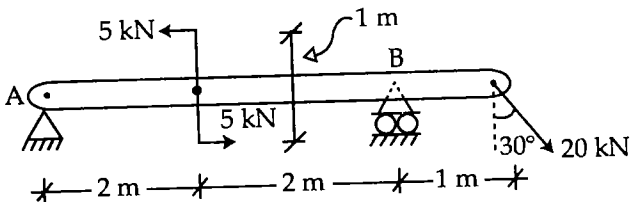

Fig. 9
- (b) Find the support reactions for a beam shown in fig. 9.